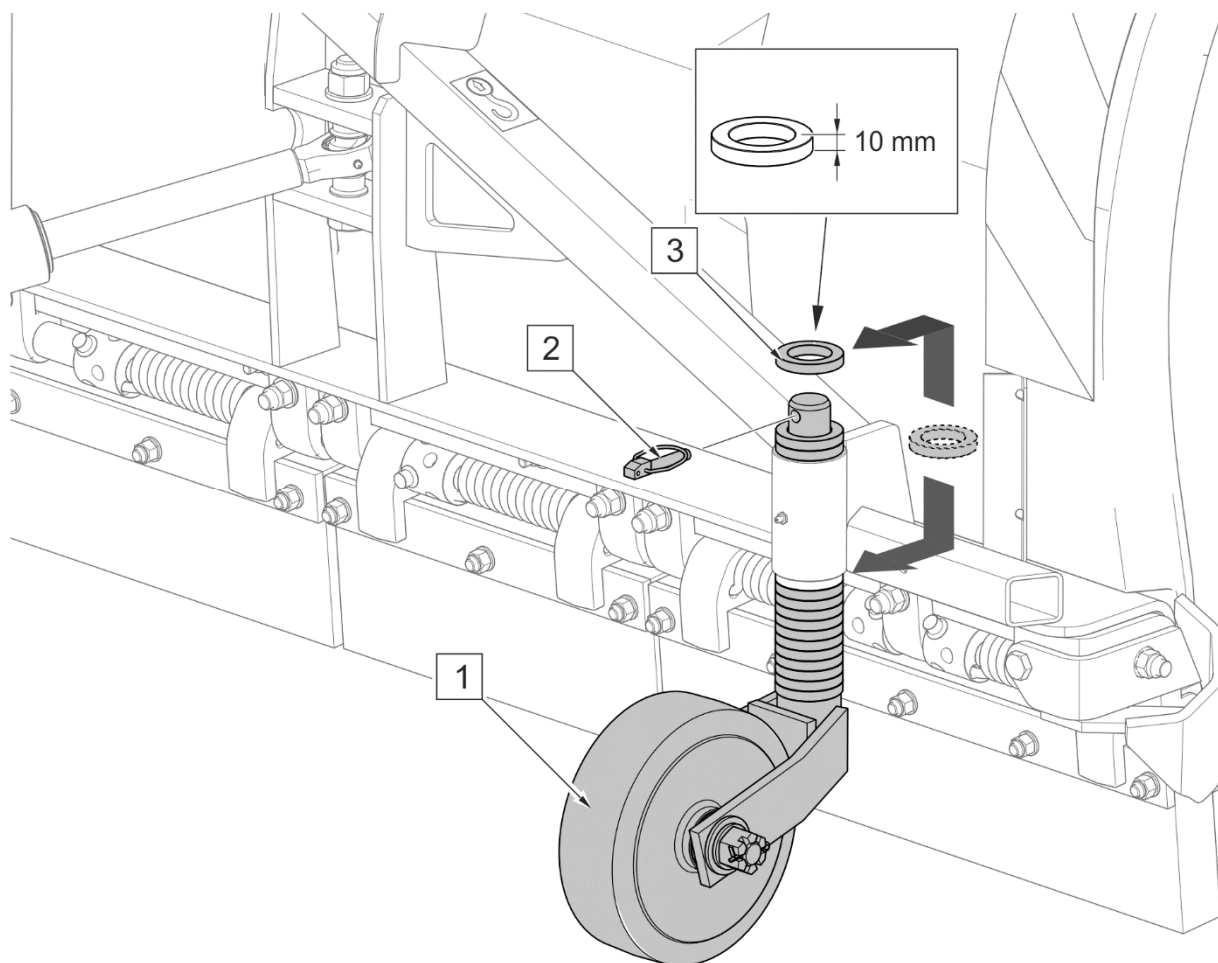

FIGURE 4.15 Working height adjustment
The wheels are used in order to maintain a proper distance between the ground and collecting blades, to reduce thickness of scraped material layer and to limit the depth of blade sinking into soft ground. Working height is set (FIGURE 4.15) by proper setting of the wheel height. Wheel height is adjusted with the use of 10 mm-high spacer washers. In order to lift wheel (1), take out cotter pin (2) and relocate spacer washers above the wheel bracket. Wheels are recommended to be set in such a manner as to ensure that the plough blade lightly touches cleaned surface. Right and left wheel heights should be the same.